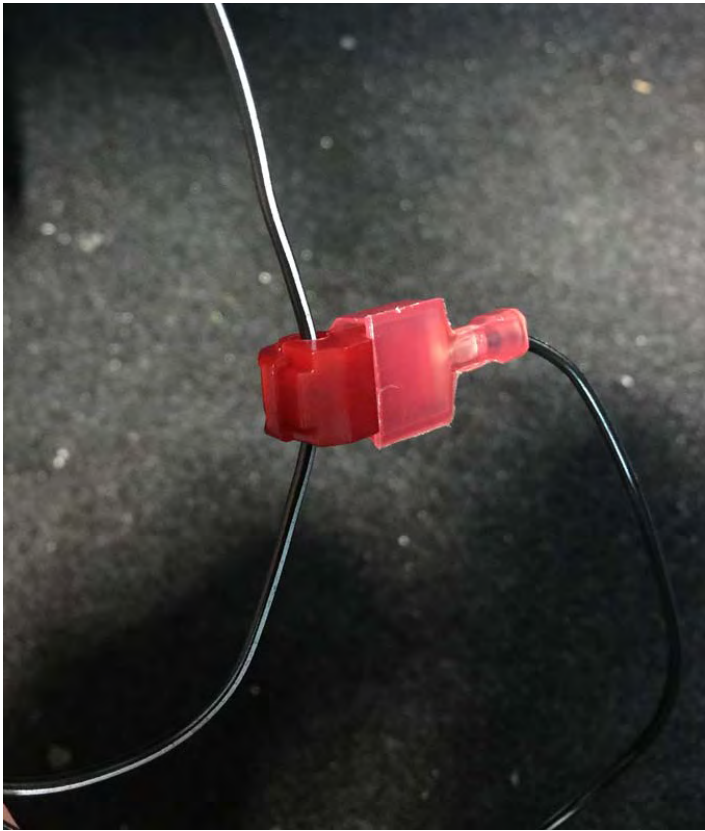

Figure 18
18. T-Tap the mirror main power harness power wire (black) to the mirror main power harness ignition wire (black/white). See figure 18.